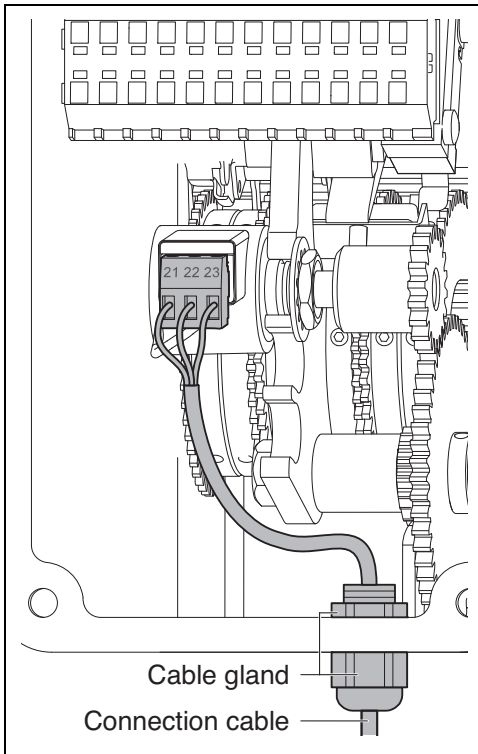

Fig. 39 Example: PAR 06
- ▶ Screw a cable gland, size M16x1.5, in the housing when the position repeater is not pre-assembled at the factory. Pull the connecting cable (cable cross-section 0.16–0.39 in (4 – 10 mm)) through and seal the gland off (see Fig. 39).